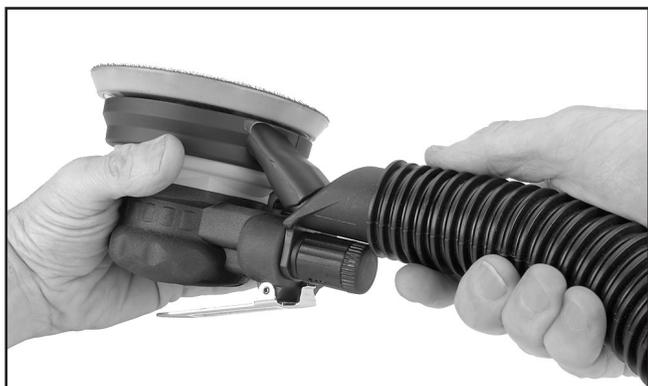

Figure 3. Attaching sander to 1 $\frac{1}{4}$ " canister vacuum hose.
- (Optional) Attach the sander to a 1 $\frac{1}{4}$ " vacuum hose as shown in **Figure 3**.